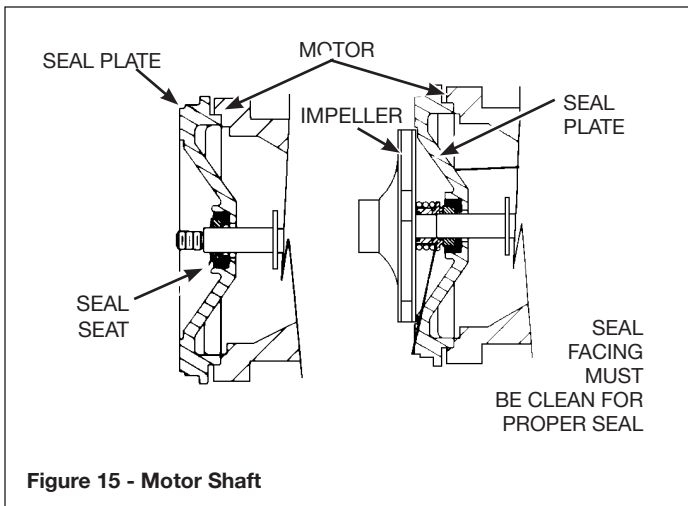

Figure 15 - Motor Shaft
18. Push the bellows side of the shaft seal over the impeller hub, you can use a little water or dish soap to lubricate the impeller hub to make assembly easier. (Figure 15) Make sure after assembly the back carbon and white ceramic surfaces are in contact.
22. Using the (4) cap screws reattach the pump housing and base to the pump body. Torque the screws to 140 ± 40 inch pounds.